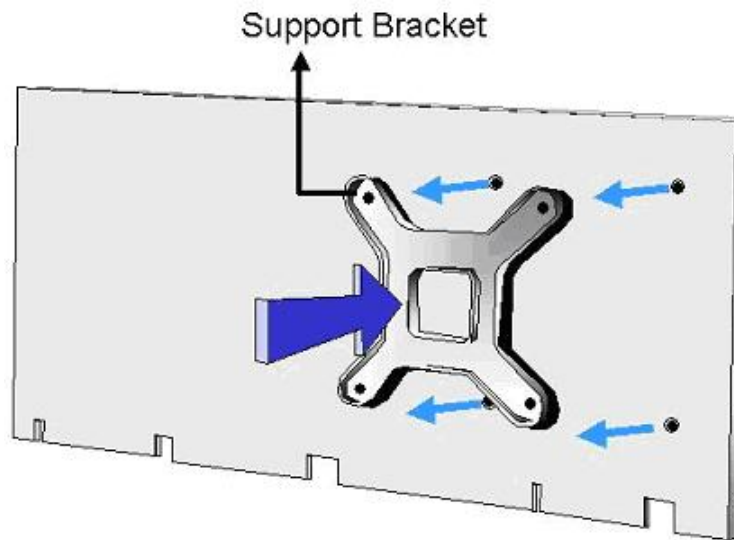

Figure 4-9: Securing the Cooling Kit
- Step 4: Secure the cooling kit.** From the solder side of the PCB, align the support bracket to the screw threads on heat sink that were inserted through the PCB holes. (**Figure 4-9**).
Step 6: Connect the fan cable. Connect the cooling kit fan cable to the CPU fan connector on the motherboard. Carefully route the cable and avoid heat generating chips and fan blades (**Figure 4-9**).